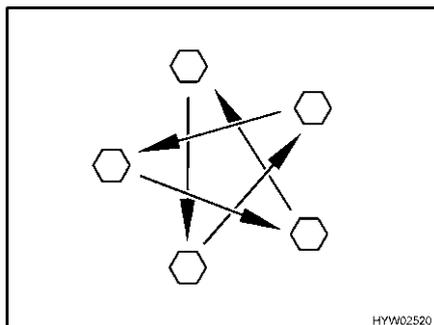

Fig. 228 Tighten the wheel nuts or wheel bolts cross-wise
- Check regularly that the wheel nuts or wheel bolts are firmly seated. Re-tighten the wheel nuts or wheel bolts of a changed wheel cross-wise (Fig. 228) after 50 km (30 miles). See section 13.5.2 for tightening torque.
- ▷ Tighten the wheel nuts or wheel bolts cross-wise (Fig. 228).